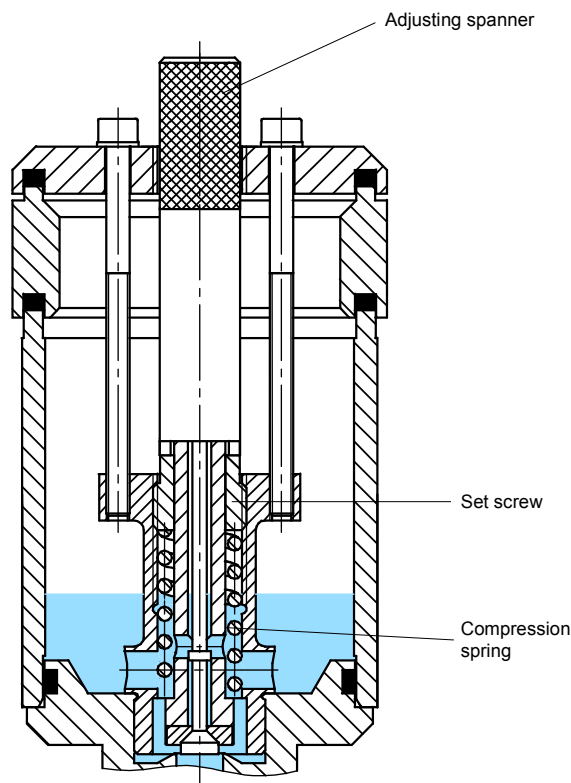

Fig. 46
- Turn slowly the adjusting screw anti-clockwise by means of an adjusting spanner with the pump running (see Fig. 46) until the fluid level in the store tank rises suddenly -> hydraulic discharge valve opens